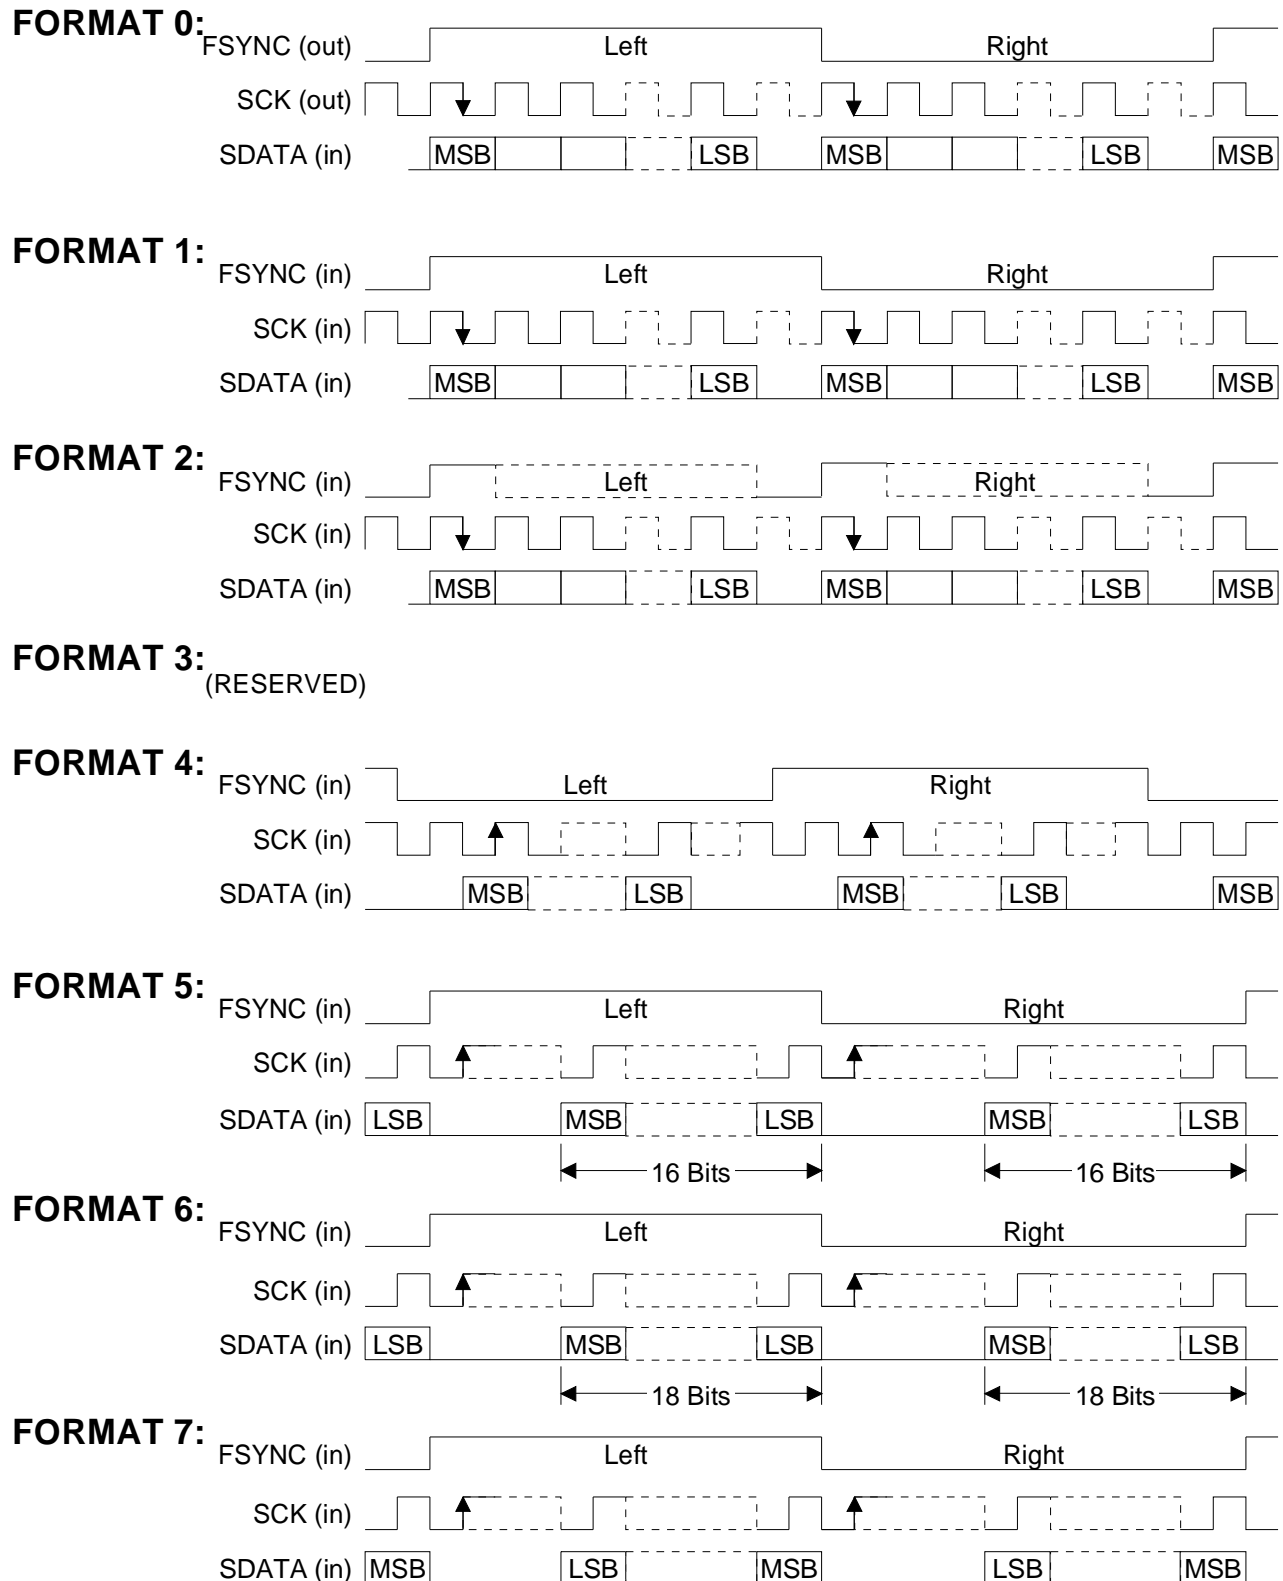

Figure 16. CS8404A Audio Serial Port Formats
The audio serial port is used to enter audio data and consist of three pins: SCK, SDATA, and FSYNC. SCK clocks in SDATA, which is double buffered, while FSYNC delineates the audio samples and may indicate the particular channel, left or right. To support many different interfaces, M2, M1, and M0 select one of seven different formats for the serial port. The coding is shown in Table 3 while the formats are shown in Figure 16. Format 0 and 1 are designed to interface with Crystal ADCs. Format 2 communicates with Motorola and TI DSPs. Format 3 is reserved. Format 4 is compatible with
The serial input pins for channel status (C), user (U), and validity (V) are sampled during the first bit period after the active edge of FSYNC for all formats except Format 4. Format 4 is sampled during the second bit period (coincident with the MSB). In Figure 16, the arrows on SCK indicate when the C, U, and V bits are sampled. The C, U, and V bits are transmitted with the audio sample entered before the FSYNC edge that sampled it. The V bit, as defined in the audio standards, is set to zero to indicate the audio data is suitable for conversion to analog. Therefore, when the audio data is errored, or the data is not audio, the V bit should be set high. The channel status serial input pin (C) is not available in consumer mode when the CD subcode port is enabled (FC1 = FC0 = high). Any channel status data entered through the channel status serial input (C) is logically OR'ed with the data entered through the dedicated pins or internally generated.